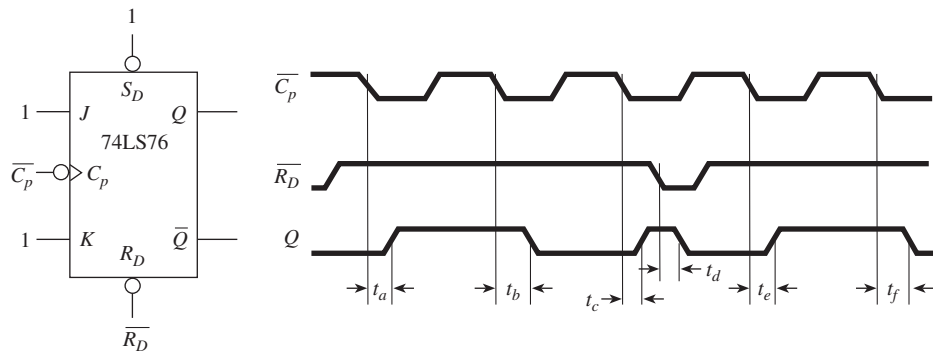

Figure P3
3. Using actual specifications for a 74LS76, label the propagation delay times on the waveforms shown in Figure P3.